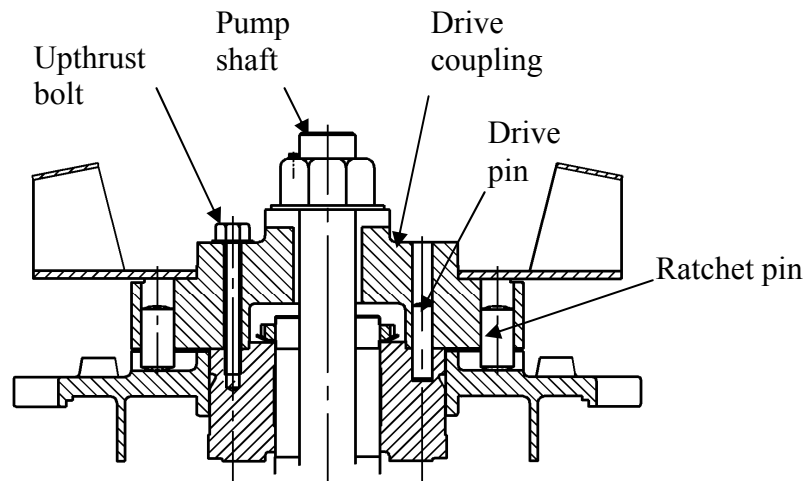

Fig. 11
Bolted coupling as Fig.11
3.3.9 Non-reverse ratchet/coupling, as Fig. 11 (If necessary)